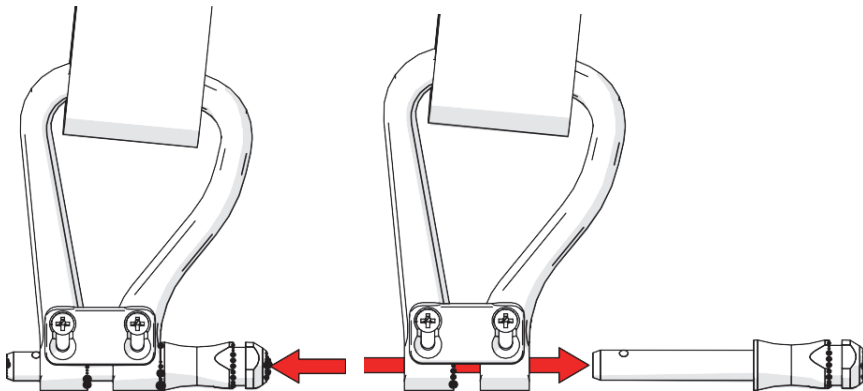

Figure 1-3 Press the pin's release button (*left*) and pull out pin (*right*)
2. Simultaneously press the pin's release button and pull the pin from the shackle (see Figure 1-3 on page 33).